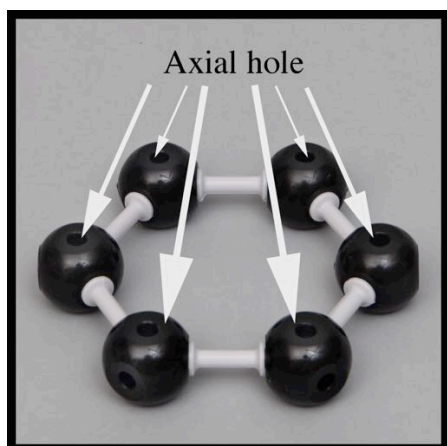

Fig 4 One complete hexagon.
2. Construct a hexagon with six of the 5-hole carbon atom centers and six tan, 27 mm bonds; make sure the axial holes point up and down. (Fig. 4)